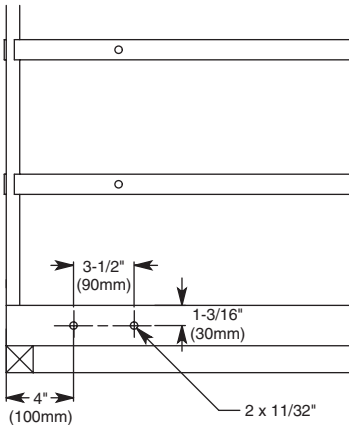

Fig. 18
1. Locate the compressor mounting holes on the front face of the sprayer platform (**Fig. 18**). (If necessary) drill holes as shown (**Fig. 18**)
3. Place the Compressor Box on the mounting bracket with hose fittings facing away from the sprayer's center line (**Fig. 18**).
4. Mount the Solution Pump on the pump bracket using (4) bolts (M6x25mm), washers and 6mm nuts. Orient the Solution Pump so the pump head is facing away from the sprayer platform (**Fig. 18**).